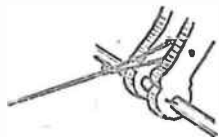

Fig. 3
For pulling the rabbit along, a cord should be tied to a nail, driven through the front legs, a little above the feet, as in detail, Fig. 3 (204)